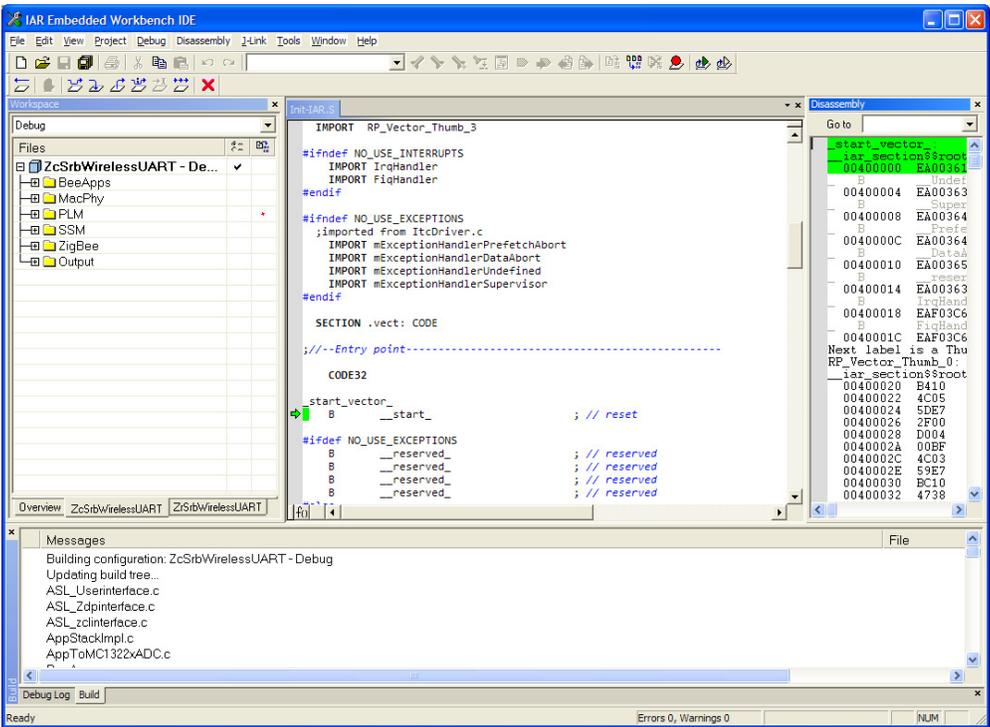

Figure 5-19. IAR Embedded Workbench Debugging View
6. Wait while the flash of the board is written. When this is complete, the debugging view of Embedded Workbench will launch as shown in Figure 5-19.